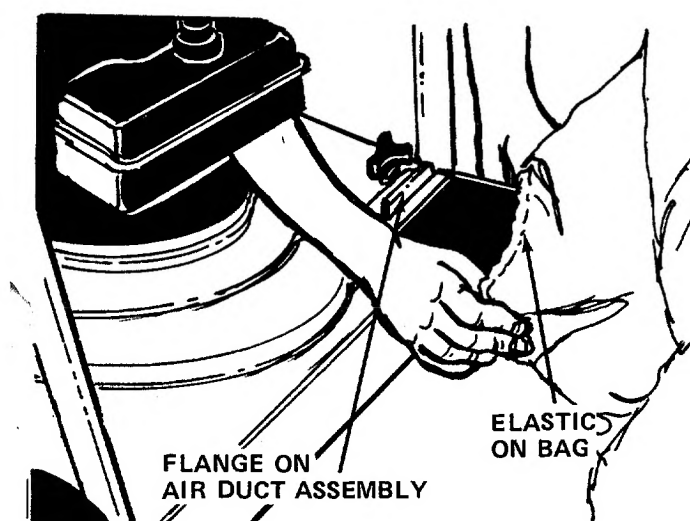

FIGURE 11
13. Slip the elastic opening of the bag over the air duct assembly, making certain the elastic opening is secured behind the flanges on all four sides of on the air duct. See figure 11.